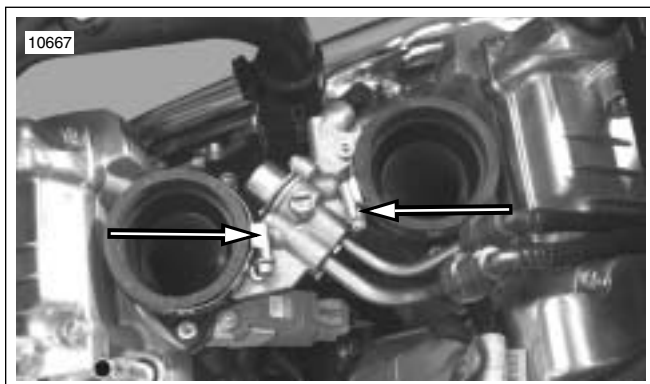

Figure 3-16. Throttle Body Intake Clamps
9. See Figure 3-16. Orient intake clamps as shown.